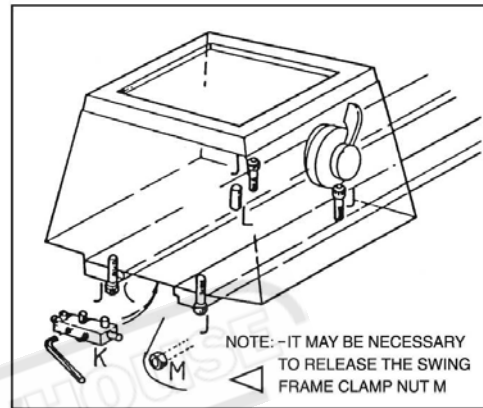

Fig.19
To correct a difference in readings, slacken the four-headstock hold-down screws (J) shown in (Fig.19.) and adjust the set-over pad (K) beneath the headstock to pivot the headstock about the dowel (L). Tighten all screws after adjustment and repeat the test-cut/micrometer-reading sequence until micrometer readings are identical, i.e. machine now cutting absolutely parallel.